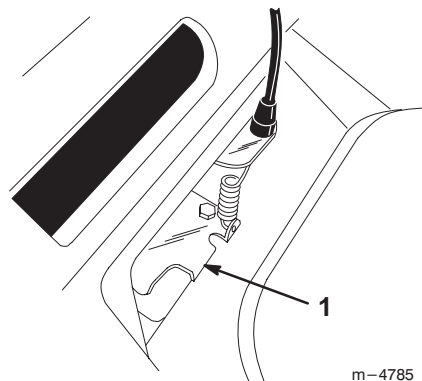

Figure 31
4. Push the belt guide tab down until it contacts the lawn mower, then hold it in place (Fig. 31).
2. Lift off the cover and brush out all the debris from the belt area (Fig. 31).